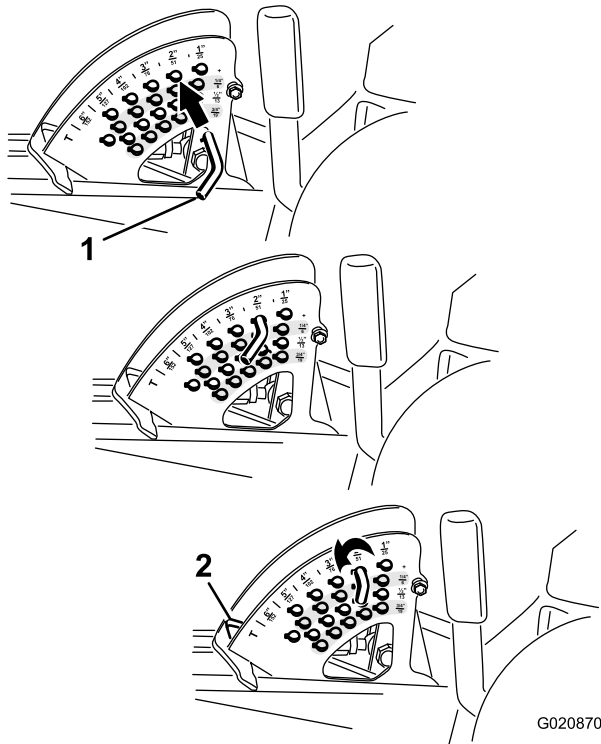

Figure 20
Note: To lock the mower deck in a raised position, raise the deck past the 6 inch (15 cm) position, remove the height of cut stop pin (refer to Adjusting the Height-of-Cut \(page 26\)), and place the pin in the 6 inch (15 cm) height-of-cut position (Figure 20).
2. To adjust, rotate the stop pin until the roll pin in it lines up with the slots in the holes in the height-of-cut bracket and remove it (Figure 20).
3. Select a hole in the height-of-cut bracket corresponding to the height-of-cut desired, insert the pin, and rotate it down to lock it in place (Figure 20).
Note: There are 4 rows of hole positions (Figure 20). The top row gives you the height of cut listed above the pin. The second row down gives you the height listed plus 1/4 inch (6 mm). The third row down gives you the height listed plus 1/2 inch (12 mm). The bottom row gives you the height listed plus 3/4 inch (18 mm). For the 6 inch (15.8 cm) position there is only one hole, located in the second row. This does not add 1/4 inch (6 mm) to the 6 inch (15.8 cm) position.